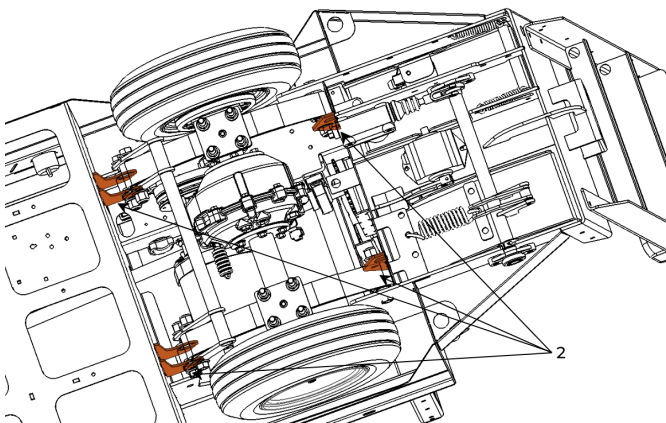

Figure 36. Rear Suspension Mounting Tabs.
- Rear suspension mounting tabs (2) (see Figure 36).